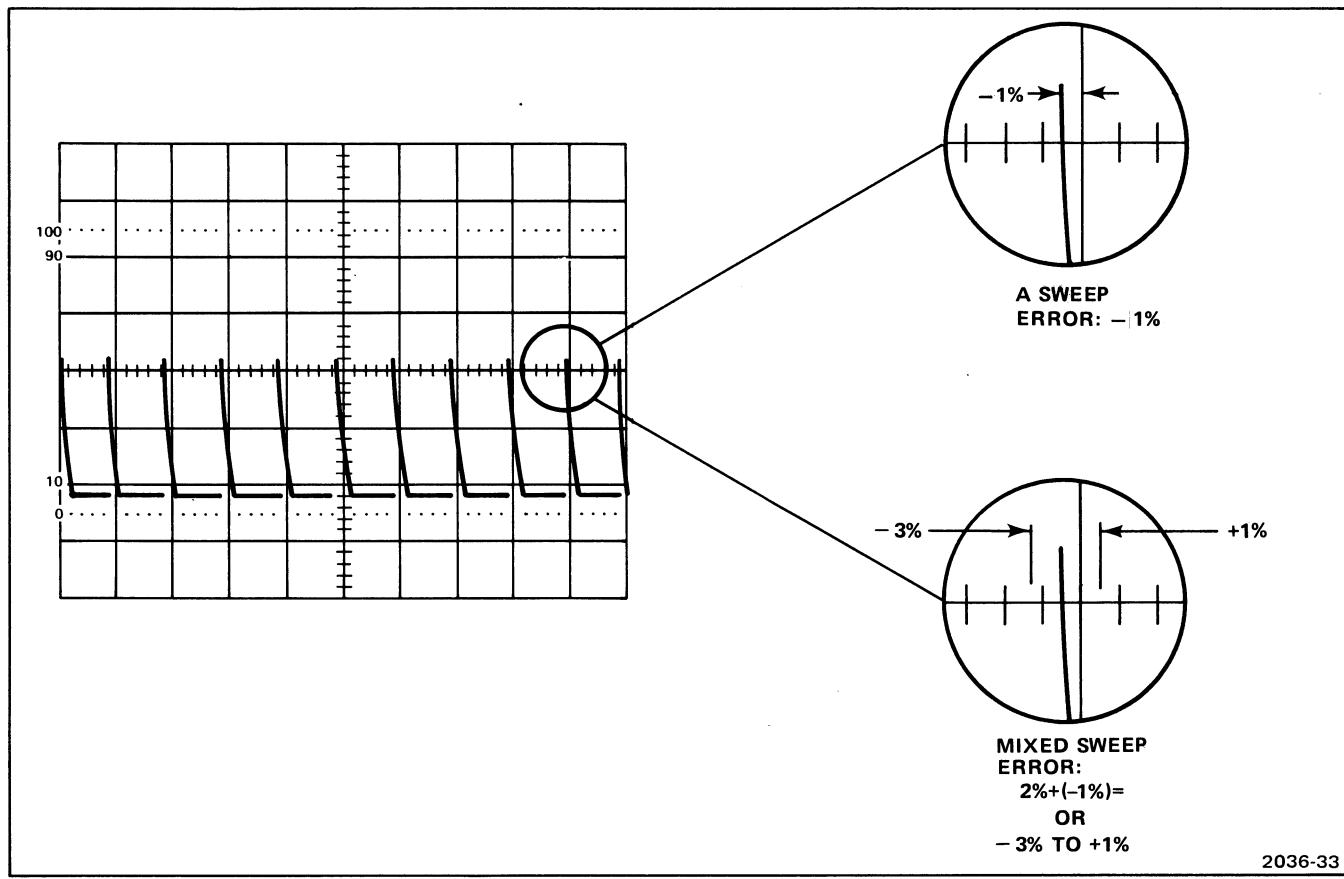

Fig. 6-5. Mixed sweep accuracy.
- e. **CHECK**—Timing error between second and tenth time markers is within 0.18 division plus the error noted in part c (see Figure 6-5).